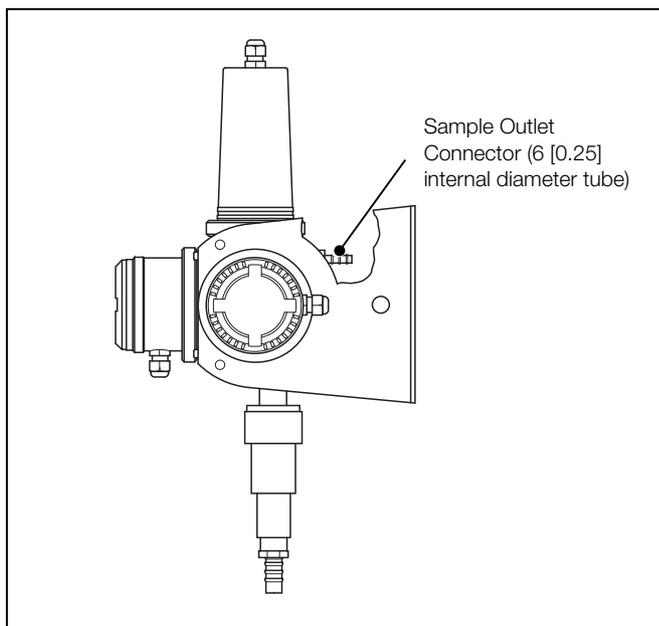

Fig. 3.10 7998 Series – Sample Outlet Connector Location
3. Referring to Fig. 3.10, connect the sample outlet tube.